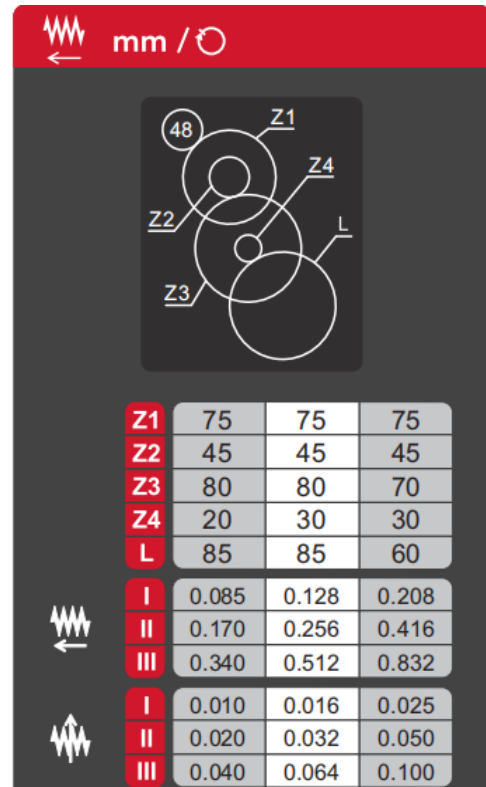

Figure 10-8: Available feed rates
**NOTE:** Additional feed rates are available with different change gear setup (Fig 10-8).